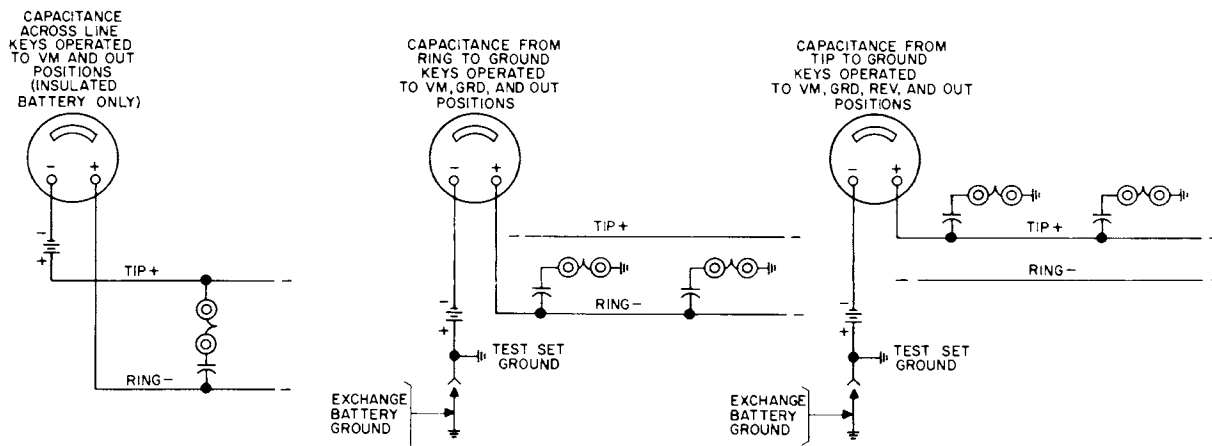

Figure 11. Capacitance tests.
- a. Capacitance across line – insulated test battery only (figure 11). The OUT/IN key will remain operated to the OUT position and the VM key will remain operated. There should be a momentary deflection of the voltmeter needle. Then, alternately operate and release the WC LINE/REV key to the REV position. There should be a corresponding “kick” of the voltmeter needle due to charge and discharge of the capacitor under test. If the REV key is operated and restored rapidly the deflection of the needle will remain steady and the capacitance of the capacitor under test may be compared with a capacitor of known value.
- b. Capacitance from ring to ground (figure 11). Operate the IMPULSE TEST/GRD key to the GRD position. Operate the OUT/IN key to the OUT position. Rapidly operate and
- c. Capacitance from tip to ground (figure 11). Operate WC LINE/REV key to REV position. Perform remainder of test as in b. above.